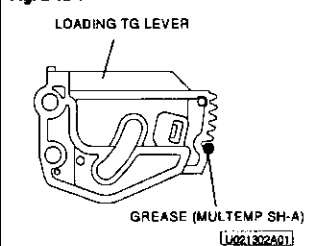

Fig. 2-13-2
- 1 Apply GREASE (MULTEMP SH-A) [859D055080] to the area specified in Fig. 2-13-2 on the new LOADING TG LEVER.